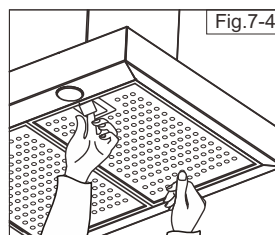
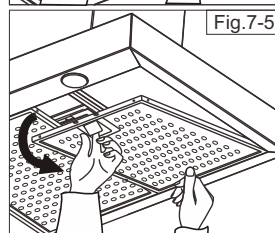

Fig.7-4
Fig.7-5
1. Support the grease filter and pull the latch to remove filter (Fig.7-4). Tilt the filter downwards to detach it. (Fig.7-5)